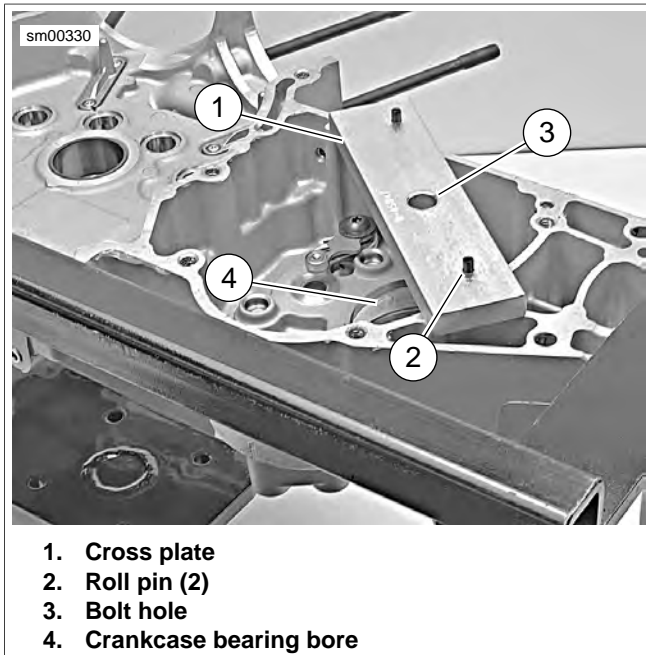

Figure 5-73. Positioning Cross Plate (Typical)
1. See Figure 5-73. Place CROSS PLATE (Part No. B-45847) (1) on right crankcase as shown. Position cross plate so that roll pins (2) fit into crankcase mating screw holes and bolt hole (3) in cross plate is centered over crankcase bearing bore (4).